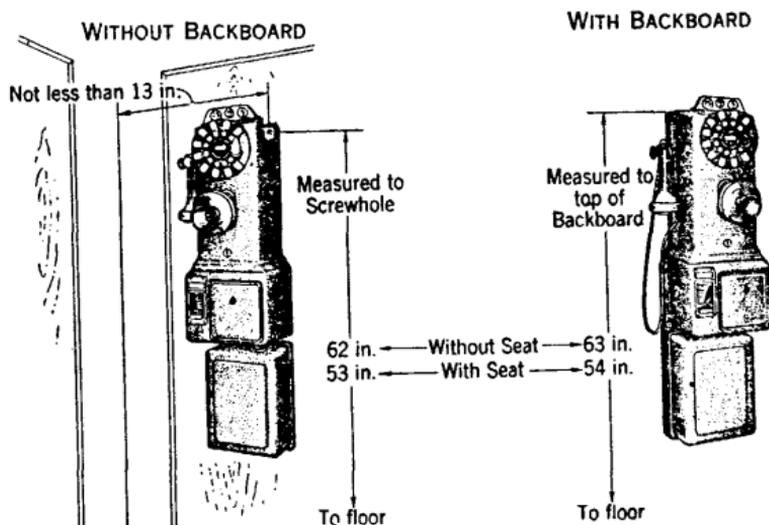

Fig. 1.
2.01 Figure 1 shows proper height for mounting coin collectors.